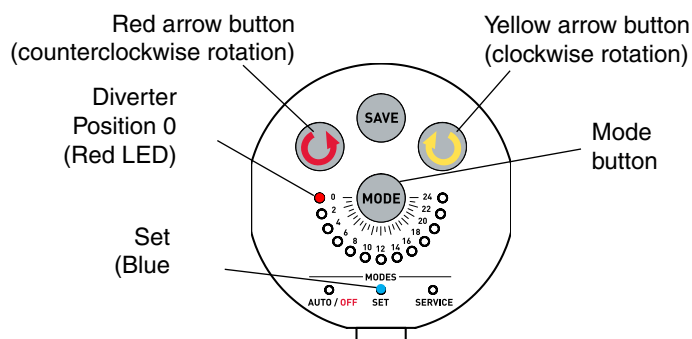

Figure 10. Home position 0 LED (Default Setting)
3. Press and hold the Yellow arrow button on the IntelliValve actuator until the Red LED indicates position 24. Press the SAVE button to set the open position of the valve, the Red LED will flash. See Figure 10.
4. Press and hold the Red arrow button on the IntelliValve actuator until the Red LED indicates position 17. Press the SAVE button. All the LEDs in the path of travel will flash five (5) times, then the LED for the last set end point will remain on.